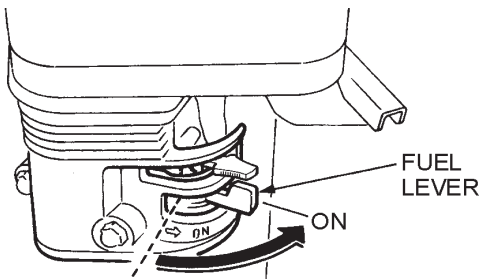

Figure 13. Engine Fuel Valve Lever (ON Position)
2. Place the engine *fuel valve lever* (Figure 13) to the "**ON**" position.